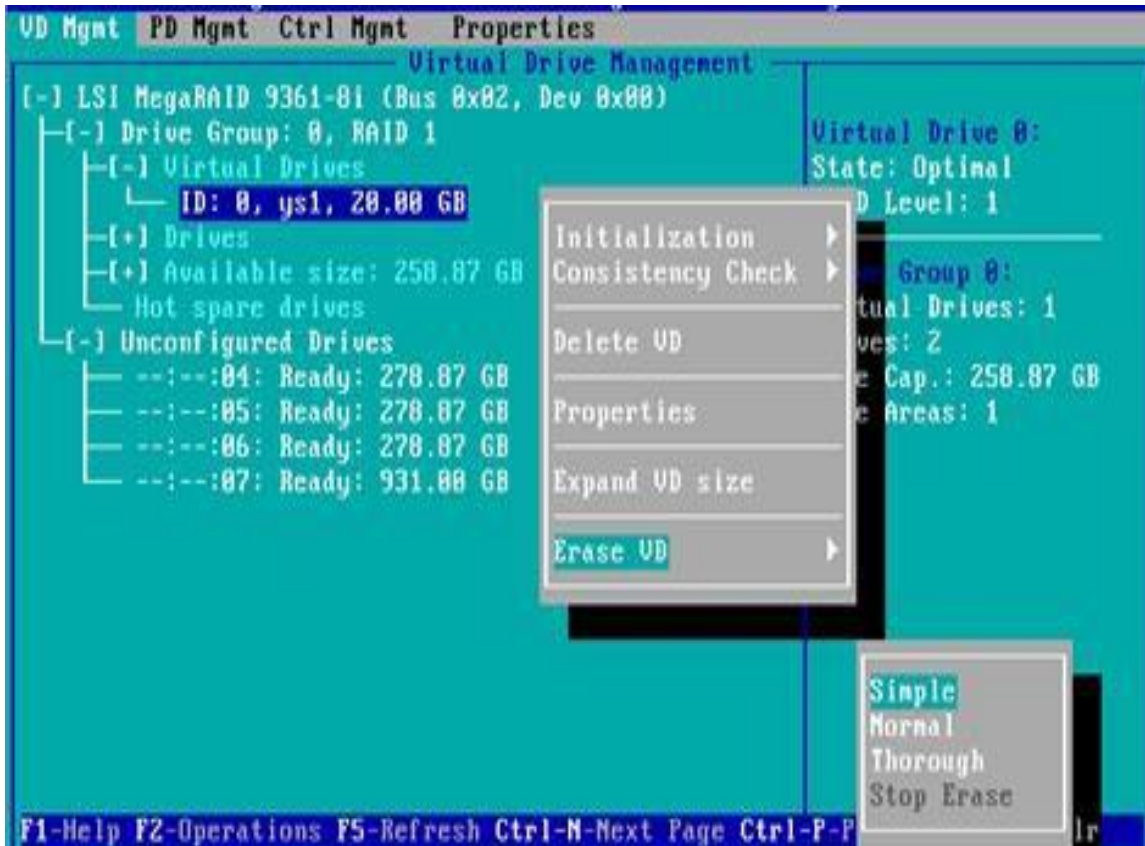

Figure 6-107
- b) Enter the interface shown in figure 6-107, select erase mode (the default mode is recommended: simple), and press enter.